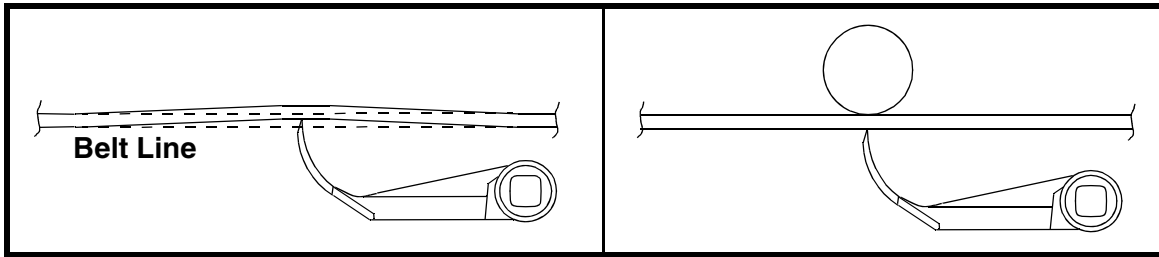

Figure 8. Secondary Cleaner Changing Belt Line and With Belt Support
12. Make sure Secondary Cleaner is not changing conveyor belt line (see Figure 8). If cleaner is changing belt line, perform steps 12.a and 12.b. If belt line is straight, go to step 13.
✓ Secondary Cleaner is not changing belt line (Figure 8).